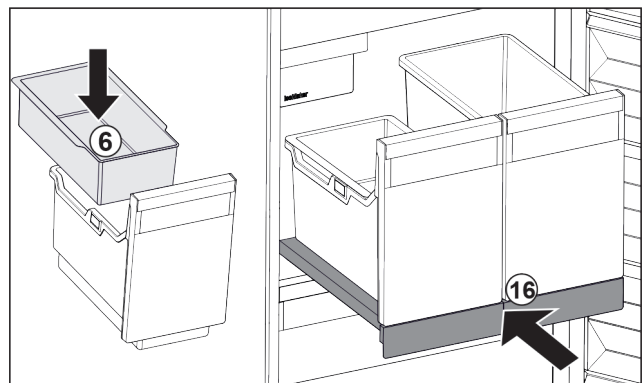

Fig. 103
- ▶ Insert hang-on tray Fig. 103 (6) for ice cubes.
- ▶ Slide in the pull-out board with (IceTower) container. Fig. 103 (16)